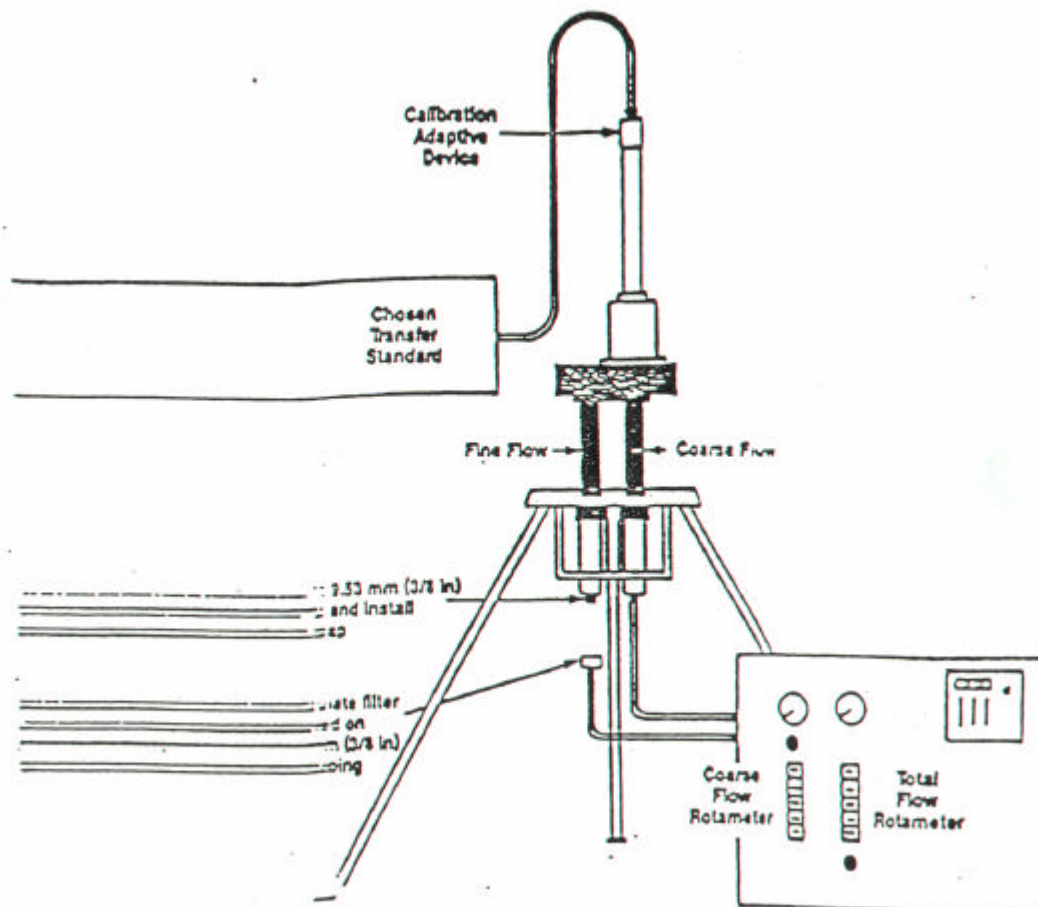

Figure M.2.1.5
1. Turn off the sampler, disconnect the fine flow vacuum line (3/8 in. o.d. tubing), and cap the fine flow output port with a 3/8 in. cap, (see Figure M.2.1.5). This step keeps the fine flow line open to the vacuum pump. It is recommended that a particle-free filter, such as an MSA filter with 3/8 inch adapter, be attached to the detached fine flow line to prevent particles from entering the system. Install the coarse flow rate transfer standard.